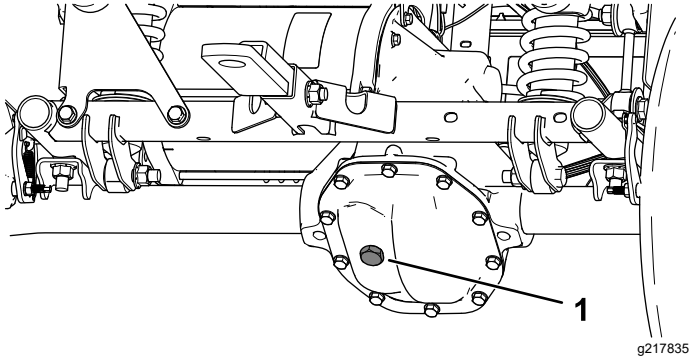

Figure 54
1. Remove the fill plug on the transaxle (Figure 54).
2. If the fluid level is low, remove the fill plug and add the specified fluid until it runs out of the hole (Figure 54).
4. Remove the fill plug on the transaxle and fill the transaxle with the specified fluid until it runs out of the fill hole (Figure 54).